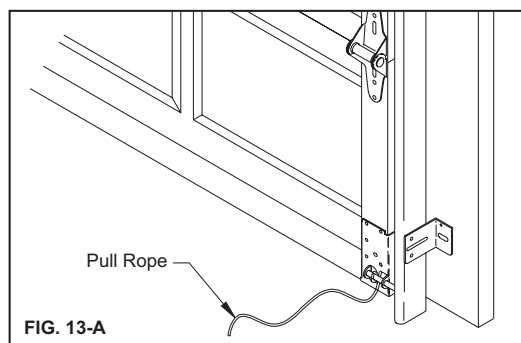

FIG. 13-A
- Install the pull rope by attaching to roller shaft in bottom bracket of door (Fig. 13-A).